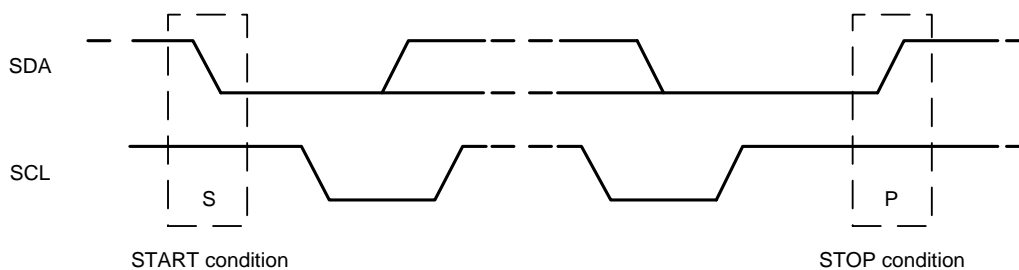

Figure 13. START and STOP Conditions
Communication on the I2C bus starts when the master puts the START condition (S) on the bus, which is defined as a HIGH-to-LOW transition of the SDA line while SCL line is HIGH (see Figure 13). The bus is considered to be busy until the master puts a STOP condition (P) on the bus, which is defined as a LOW to HIGH transition on the SDA line while SCL is HIGH (see figure below).